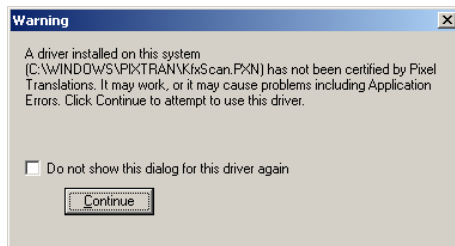

Figure 50. New Driver Notice
- 8 If the application notifies you that another driver is being installed, as shown in Figure 50, click **Continue**.